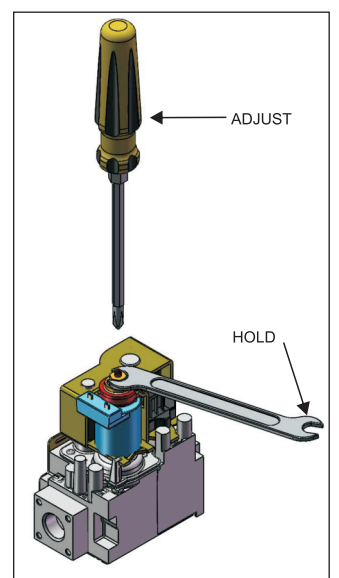

FIG 41
4. Still in Manual Mode, set the heater to Level 1. Retain spanner in position and using a screwdriver adjust the central screw control to give a low pressure reading (refer to specification table on **page 9 & 11**). (**Turn clockwise to increase pressure and anticlockwise to decrease pressure**). Refer to **FIG 41**.